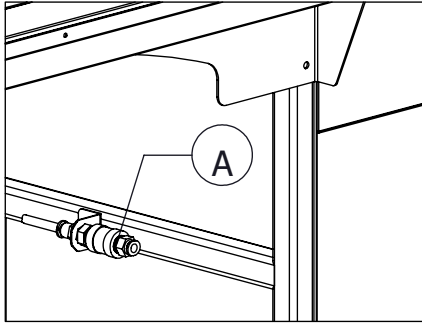
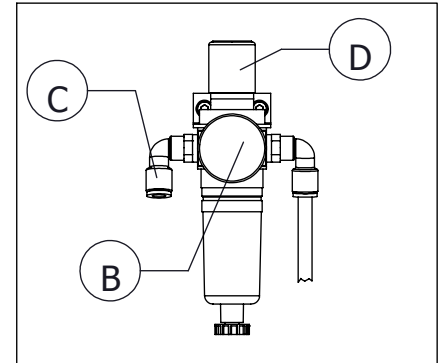
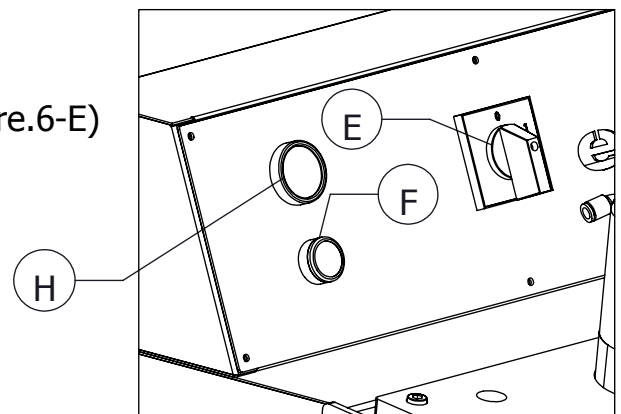

Figure.4
Figure.5
Figure.6
2. Open air valve (Figure.4-A) and ensure the pressure indicator (Figure.6-H) shows 6-7 Atm. If it needs, adjust air pressure by using regulator. (Figure.5-D)
4. Bring main power switch to I position. (Figure.6-E)